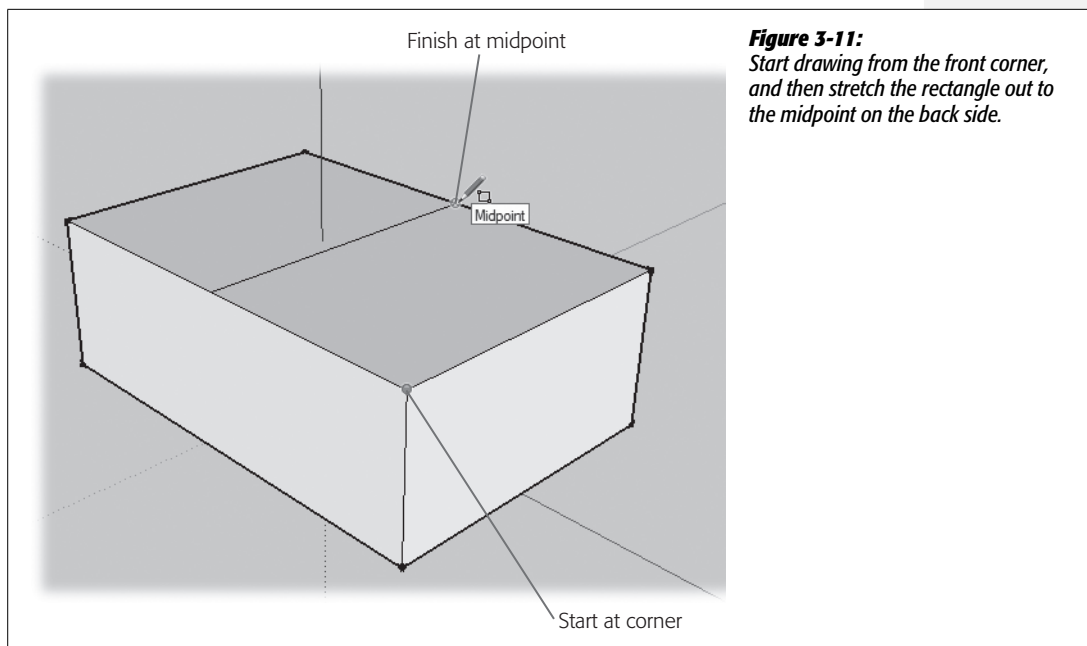

Figure 3-11:
3. With the Rectangle tool, click the front upper-right corner, and then click the upper midpoint on the back of the box, as shown in Figure 3-11.